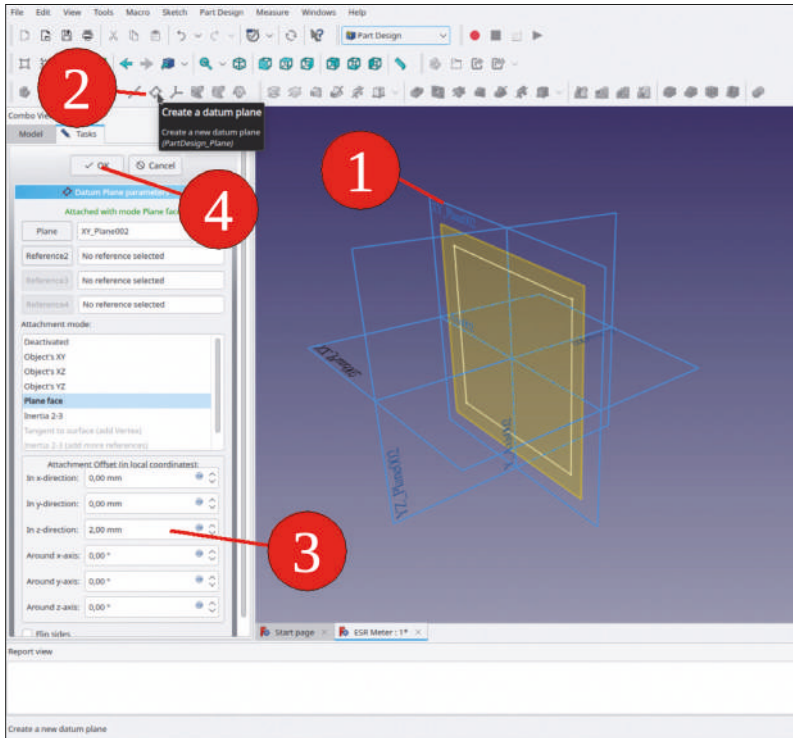

Figure 7-3
4. In the 3D view, click on blue to deselect the whole coordinate system. Then mark the XY plane. Click on the 'Create a datum plane' tool button. In the task window, thanks to our prior marking, the XY plane is already preset. Set the attachment Z offset to 2 mm (the sheet metal thickness, Figure 7-3). Hide the coordinate system again with the SPACE key. Rename the new datum plane to 'Front Panel Top Face'.